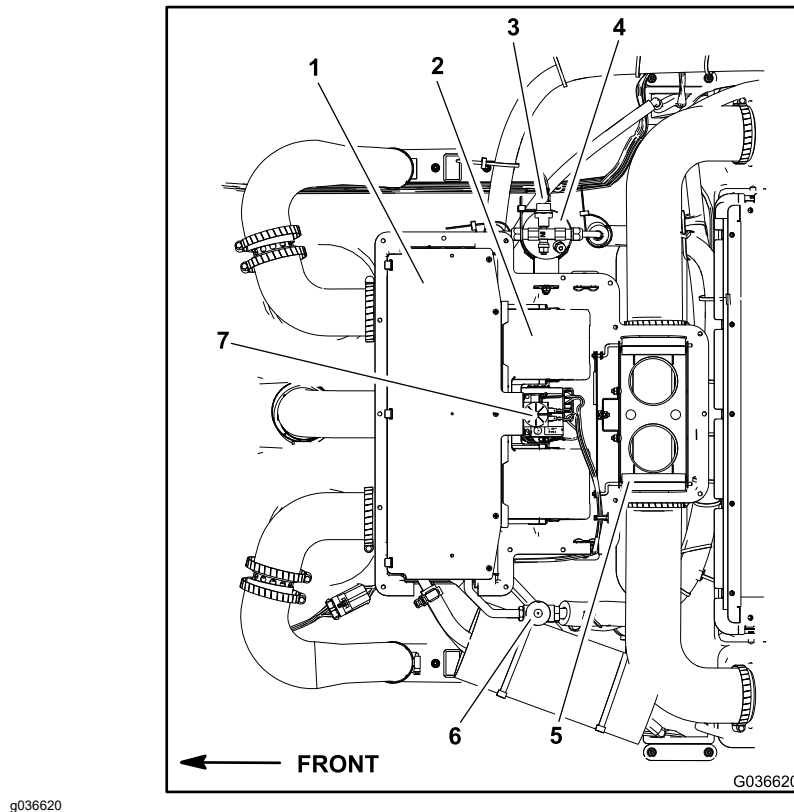

Figure 331
6. Remove the mixing box components as shown in Figure 330 and Figure 331.
1. Install all the mixing box components that were removed (Figure 330 and Figure 331).